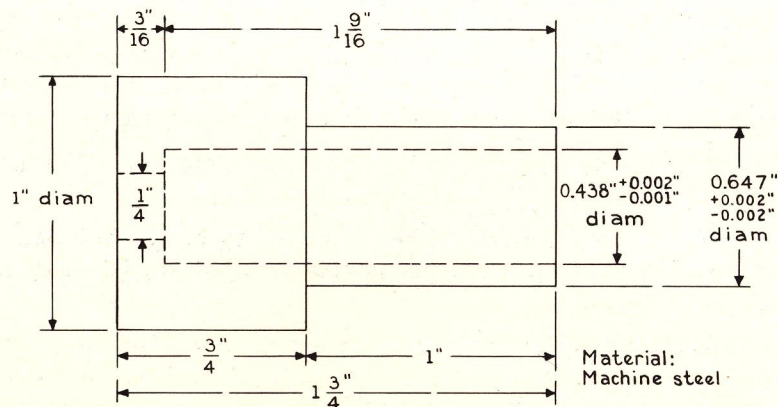

Fig. 9. Collar for Removal of Commutator-end Ball Bearing
(1) Blow out the air passages with compressed air. Remove loose dirt, and wipe the armature clean. To remove drive-end ball bearing (134) use a standard commercial-type bearing puller. The commutator-end bearing (135) may be removed by the use of a suitable collar, made as shown in Fig. 9; and a standard commercial-type bearing puller. Slide the collar over the splined section of the inner shaft which projects through the outer shaft and pull off the ball bearing. The inner shaft will not be displaced nor the threaded-end section of the inner shaft damaged. Locate the drive screw of the bearing puller in the countersunk center hole of the collar.